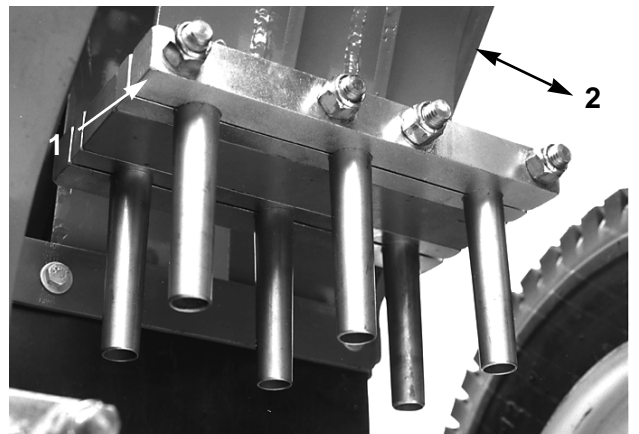

Figure 23
1. Grasp each stomper assembly at the bottom and try to move the assembly laterally in each direction (Fig 23). Do not move fore and aft. There should be little or no movement of the assembly. If there is movement, go to step 2. If there is little or no movement, check the next assembly.